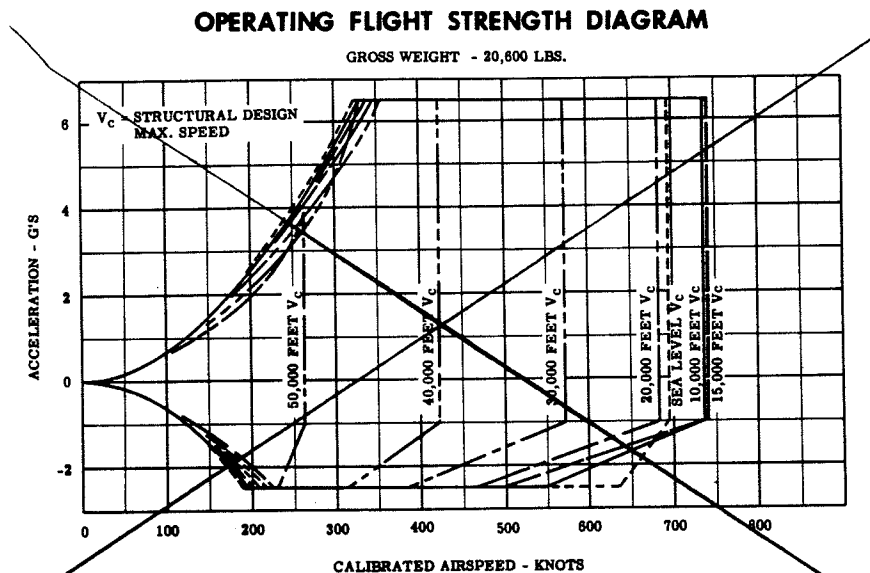

Figure 2-1. Operating Flight Strength Diagram
1-152. The airspeed indicator is a conventional airspeed indicator with the addition of a maximum airspeed indicating mechanism which normally indicates maximum allowable airspeed for the existing flight altitude. A yellow pointer shows indicated airspeed; a red and white striped pointer is meant to show maximum allowable airspeed. However, on this airplane the maximum allowable airspeeds are above the limits of the indicator (as shown in figure 2-1) and therefore, the striped pointer can be used for reference purposes only since it cannot be set above 1.0 Mach number. The indicator is preset for the maximum Mach number and the striped pointer will move to indicate the airspeed corresponding to that Mach number at the existing flight altitude.
b. See figure 2-1 for maximum allowable airspeed and acceleration limits.